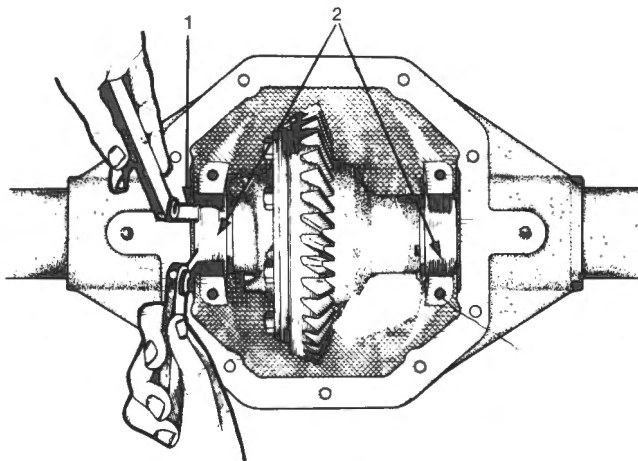

Fig. O-10
- 12 Push the assembly hard to one side of the carrier, measure and note the gap between the spacer and the carrier at the other end. Fig. O-10.